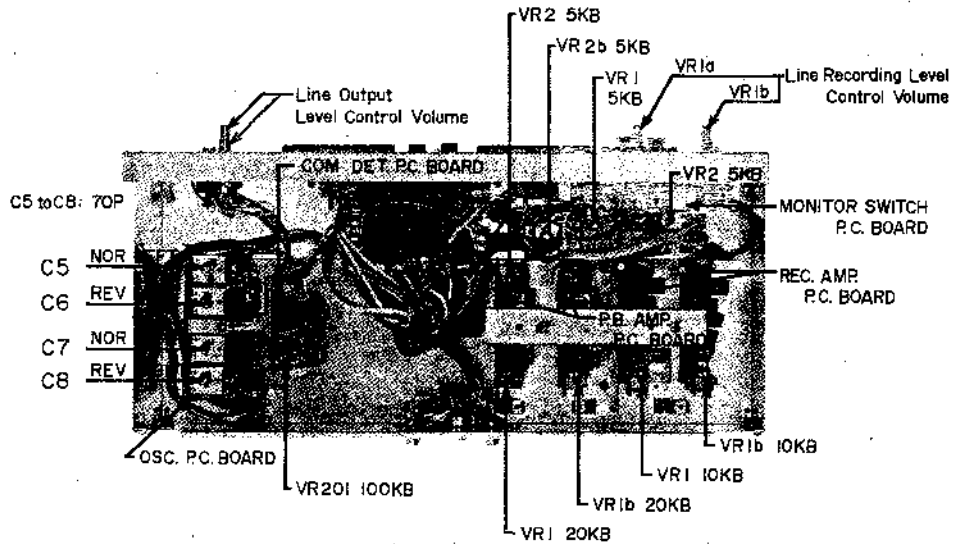

Fig. 16
(See Fig. 16)
- 2) Adjust OSC. P.C. Board semi-fixed capacitors C-5 to C-8 (70P) so that a 10 kHz signal output level is within $\pm 1/0$ dB in relation to 1,000 Hz. (See Figs. 16 & 17)